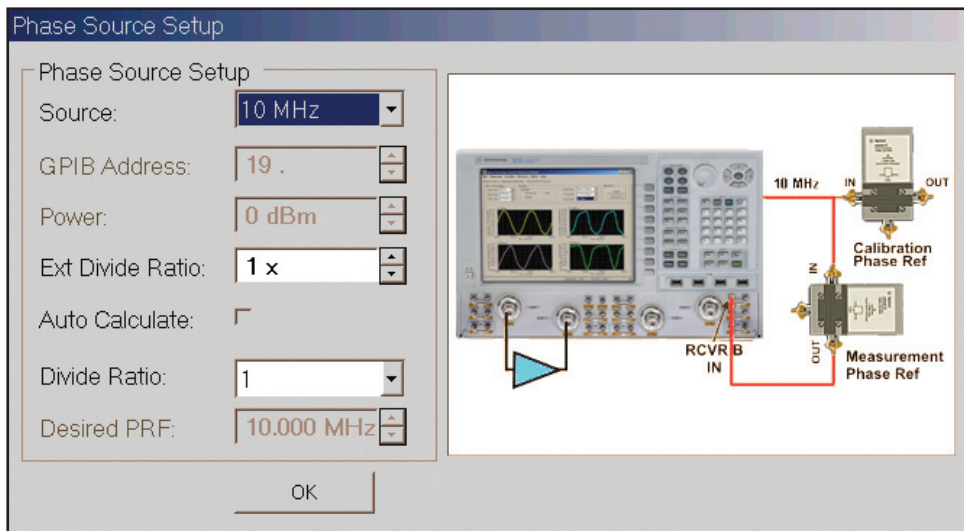

Figure 2. Connection Diagram and Setup Using the 10 MHz Source to Drive the Comb Generators.
- 3.5 RF Connections (See Figure 2 for connection diagram).
- 4.4.1 In the NVNA app, select Utilities->External Instruments->Phase Reference->Source Setup (see figure 2).